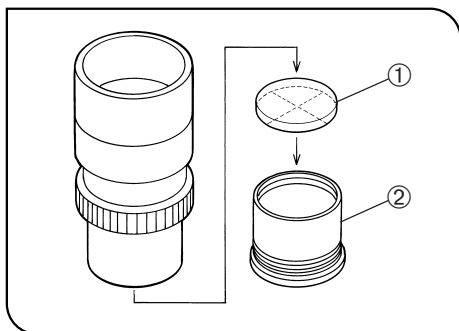

Fig. 18
4 Using Eyepiece Micrometer Disks (Fig. 18)
Following Fig. 18, turn the built-in micrometer mounting frame ② counter-clockwise to remove it from the eyepiece and place a micrometer disk ① into the mounting frame so that the surface with the model indication faces downward.